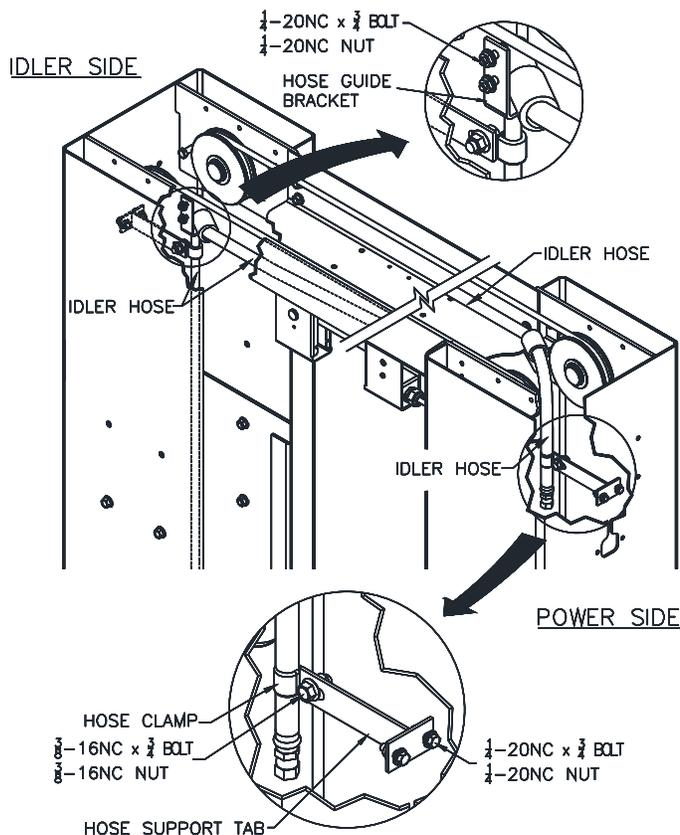

Fig. 13 – Idler Hose Routing & Hose Brackets
- 33) Install the Hose Guide Brackets and Hose Support Tabs to both the Idler & Power Columns using 1/4" -20NC x 3/4" lg. hex flange bolt and nut, see Fig 13.
- 34) Uncoil Idler side hose and Overhead hose and attach them together. Route the loose end up the Idler Side column extension and attach to the Hose Support Tab with a "P" Clamp, Fig. 13. (Each hose clamp requires one 3/8"-16NC x 3/4" lg. hex flange bolt and one hex flange nut.) Remove slack and tighten the clamp.
- 35) Route hose across overhead through both Hose Guide Brackets, Fig.13, and down through the Power Side column extension. Do not attach clamps to the Overhead Hose at this time.